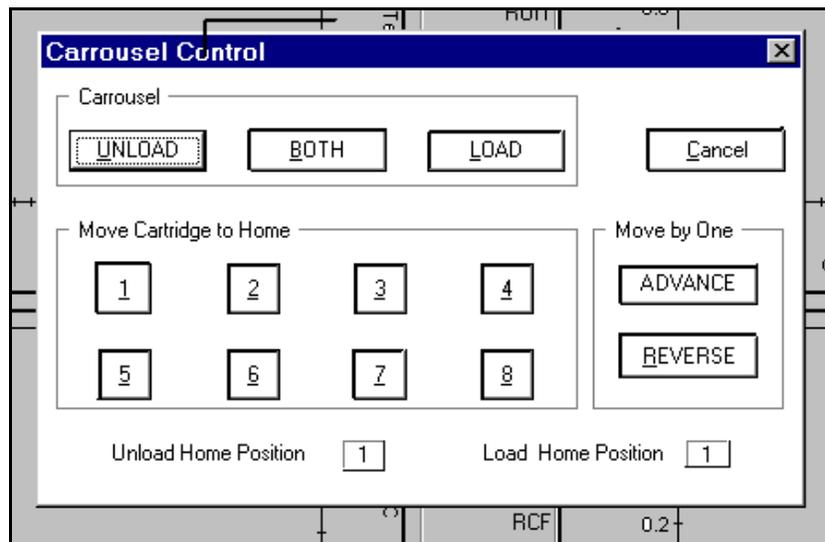

Figure 3.2 Carrousel Control Dialog Box
2. From the 8800 Host Main Menu select Control, Carrousel. This will bring the Carrousel Control Dialog Box (Figure 3.2) into view.
1. From the 8800 Host Main Menu select Control, Carrousel. This will bring the Carrousel Control Dialog Box (Figure 3.2) into view.